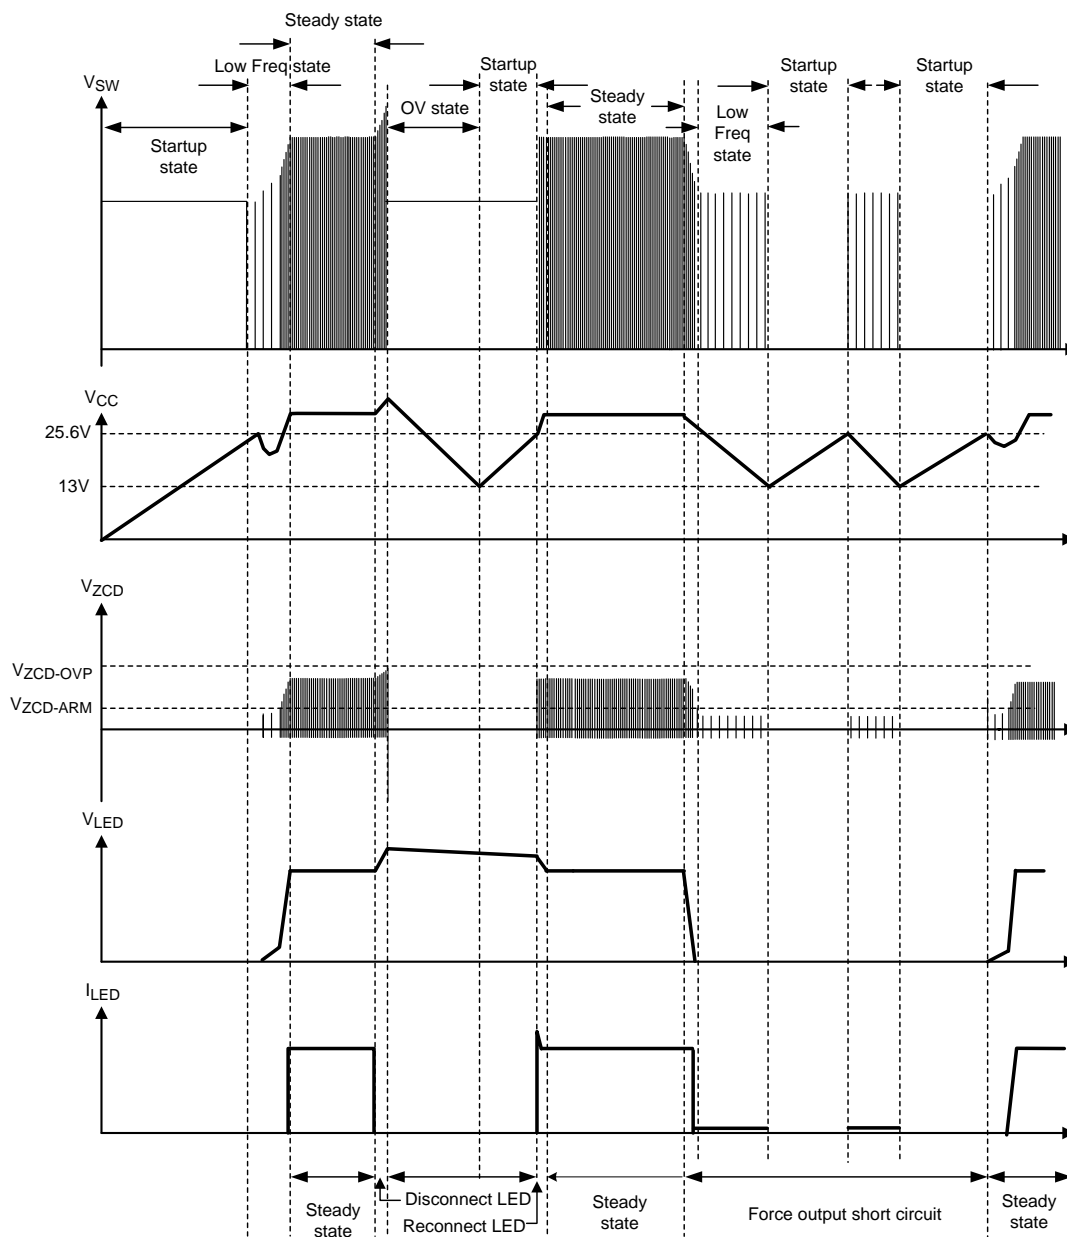

Figure 20. Auto Restart Operation
If the LED string is disconnected, V_{LED} increases and thus $V_{ZCD-PEAK}$ increases. When $V_{ZCD-PEAK}$ is larger than $V_{ZCD-OVP}$ for 3 continuous switching cycles, the Over Voltage Protection (OVP) feature is triggered such that the TPS92310 becomes Over-Voltage (OV) state. In this case, the switching of Q_1 is stopped, and V_{CC} decreases owing to the power consumption of the internal circuits of the TPS92310. When V_{CC} drops below the falling threshold of $V_{CC-UVLO}$, the TPS92310 restarts, and re-enter into startup state (Figure 20).